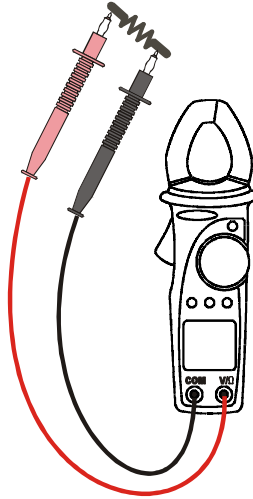

Fig. 8: resistance and continuity measurements
3. Connect the test leads to the circuit under test (see Fig. 8). The measured resistance value is displayed.